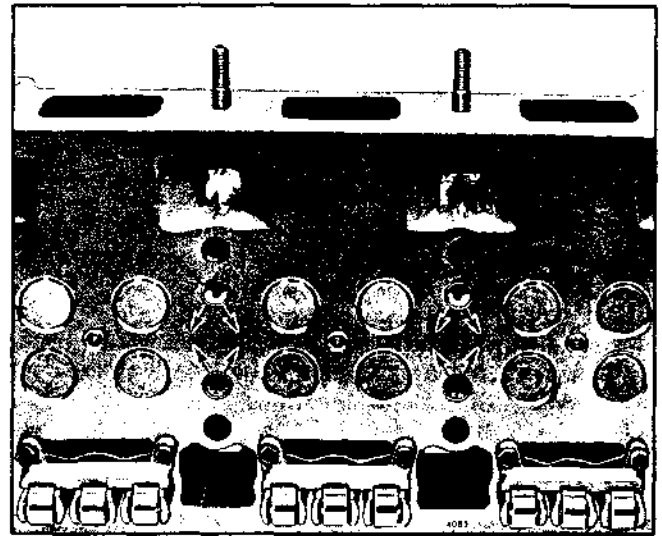

Fig. 5 - Correct Installation of Water Nozzles in Four-Valve Cylinder Head
- Press the nozzles in place with the outlet holes positioned as shown in Fig. 5. The angle between the outlet holes in the nozzle is 90°. Press the nozzles from flush to 1/32" below the bottom surface of the cylinder head.